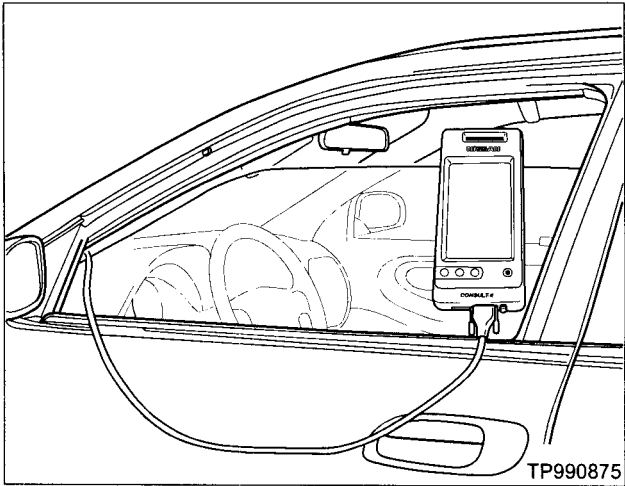

Figure 19
26. Roll down the driver's window part way, exit the vehicle, close the door and hang the CONSULT II unit on the outside of the window (see Figure 19).